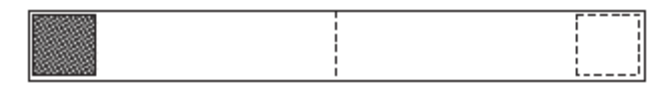

Figure A.2 – Orientation of hook and loop fasteners
3.2.1.2 Sew the hook and loop fasteners (component 4) to opposing sides of the interior fabric retainers for foam inserts 2 (component 1.8) as shown in figure A.2.